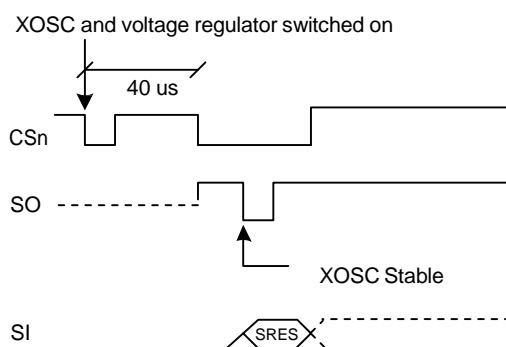

**Figure 12: Power-On Reset**
**HC210C-T** supports 2-(G)FSK and 4-FSK modulation. When selecting 4-FSK, the preamble and sync word is sent using 2-FSK (see Figure 12).